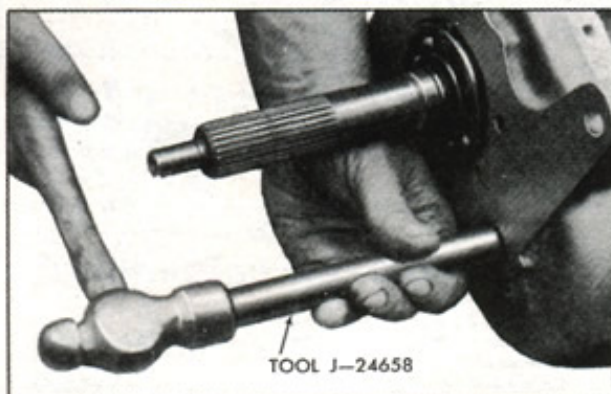

Fig. 5—Removing Countergear Shaft
11. Using dummy shaft J-24658, drive countergear shaft out of countergear (Fig. 5) and allow countergear to rest on bottom of the case.